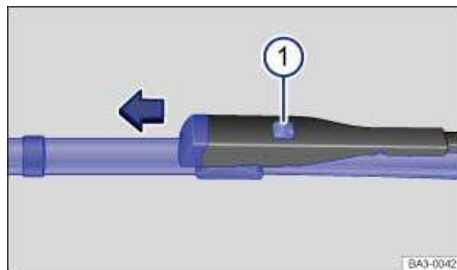

Fig. 187 Changing the windshield wiper blades.
- Press and hold the release button ⇒ fig. 187 \(1\).